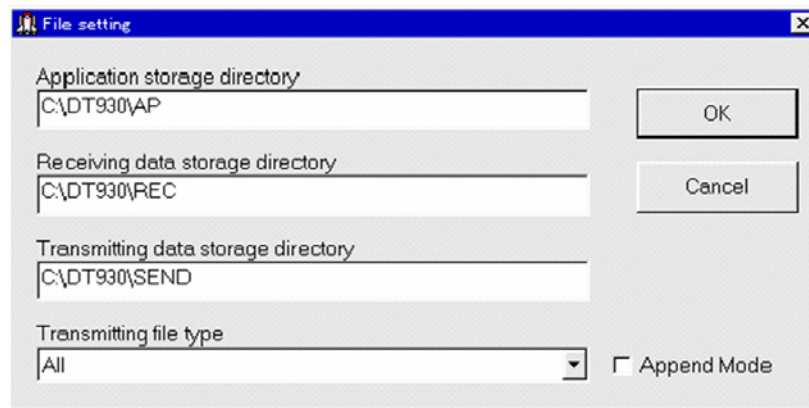
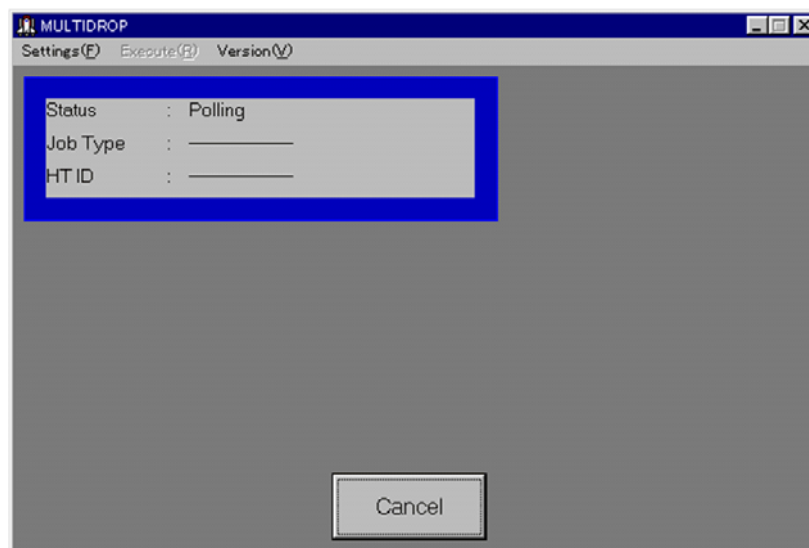

Fig. 2.10
Fig. 2.11
1. Specify the directory where your files are stored in **Transmitting data storage directory** field as described in Fig. 2.10.
2. Click **OK** button in Fig. 2.10 and then select **Execute (R)** menu in Fig. 2.11. The application will enter to the 'Polling' state.